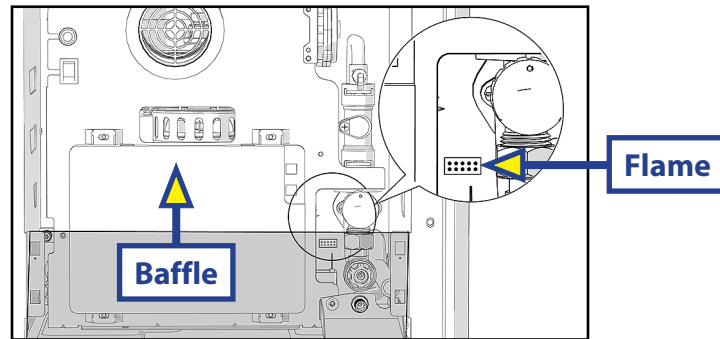

Fig. 5
11. Turn on the power to the water heater and open a hot water faucet to inspect the flame of the burner. The flame should be of the normal bluish appearance that indicates proper combustion. This can be accomplished by removing the water heater door and baffle to observe the flames by looking at the burner under the edge of the heat exchanger (Fig.5).